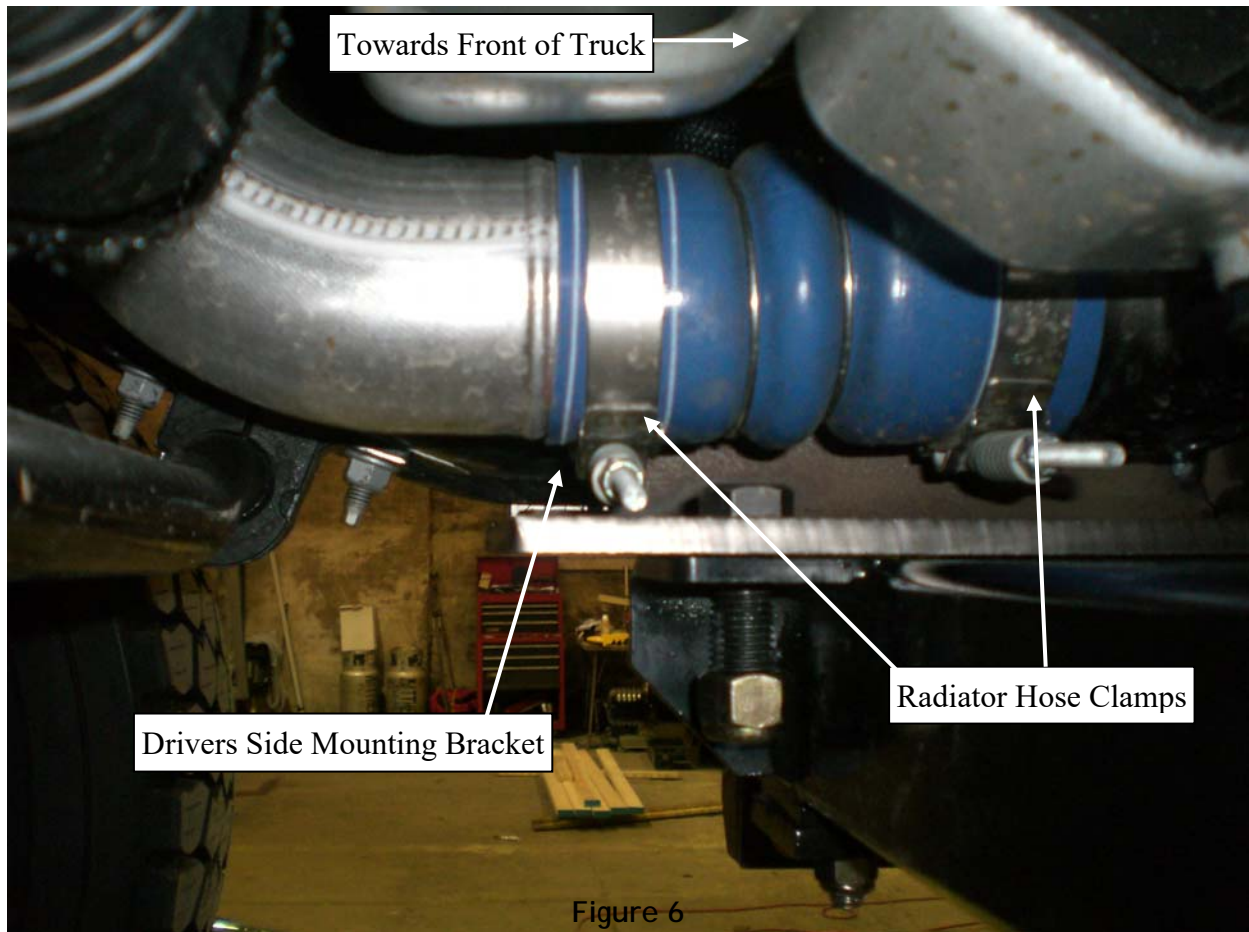

Figure 6
5. The lower radiator hose clamps on the driver's side may need to be adjusted for proper clearance with the driver's side mounting bracket. (**Figure 6**)